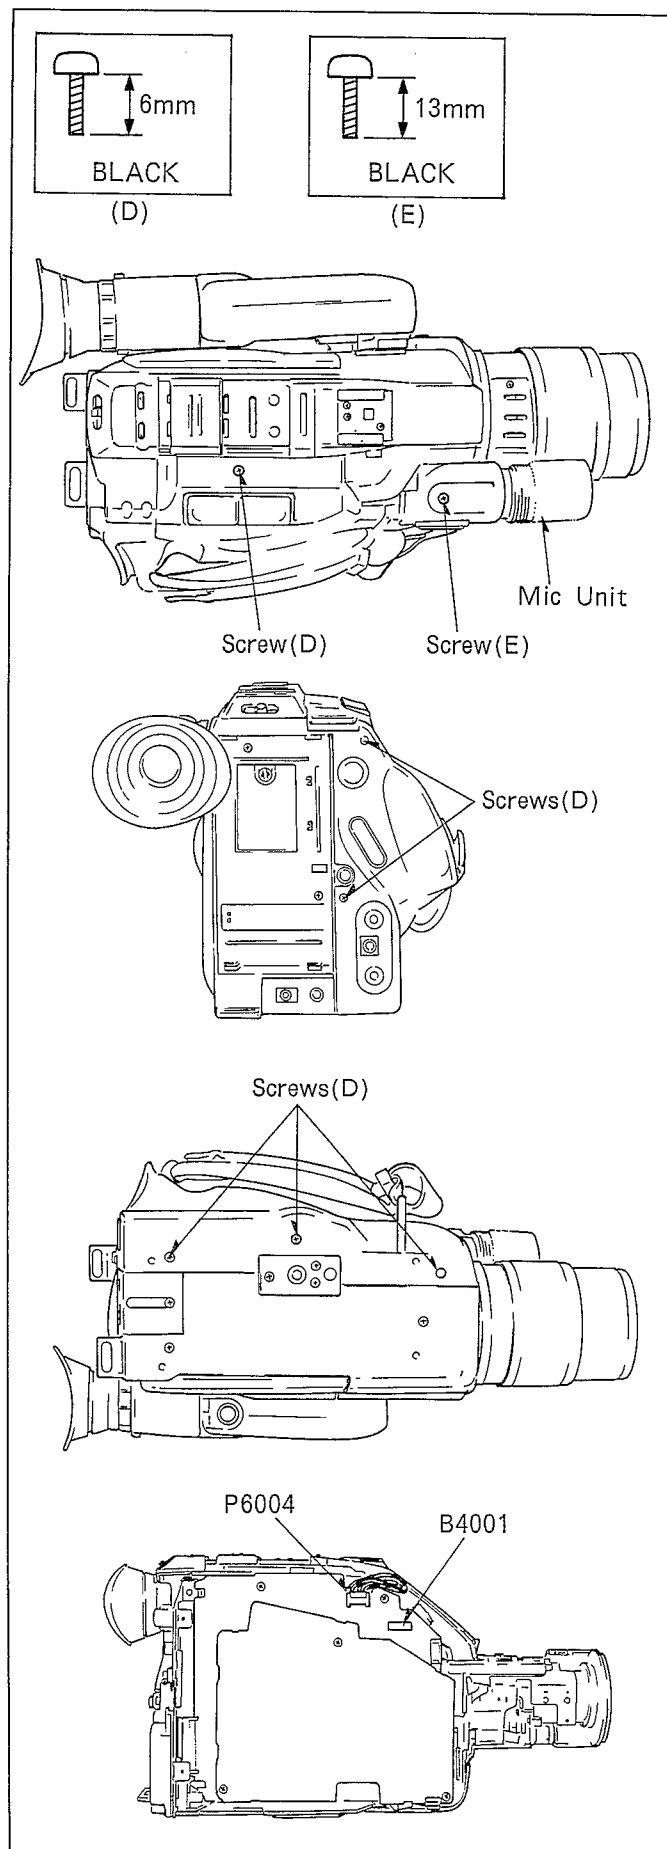

Fig. D4
Remove ..... Screw(E) shown in Fig.D4
Remove ..... Connector(P6004) shown in Fig.D4